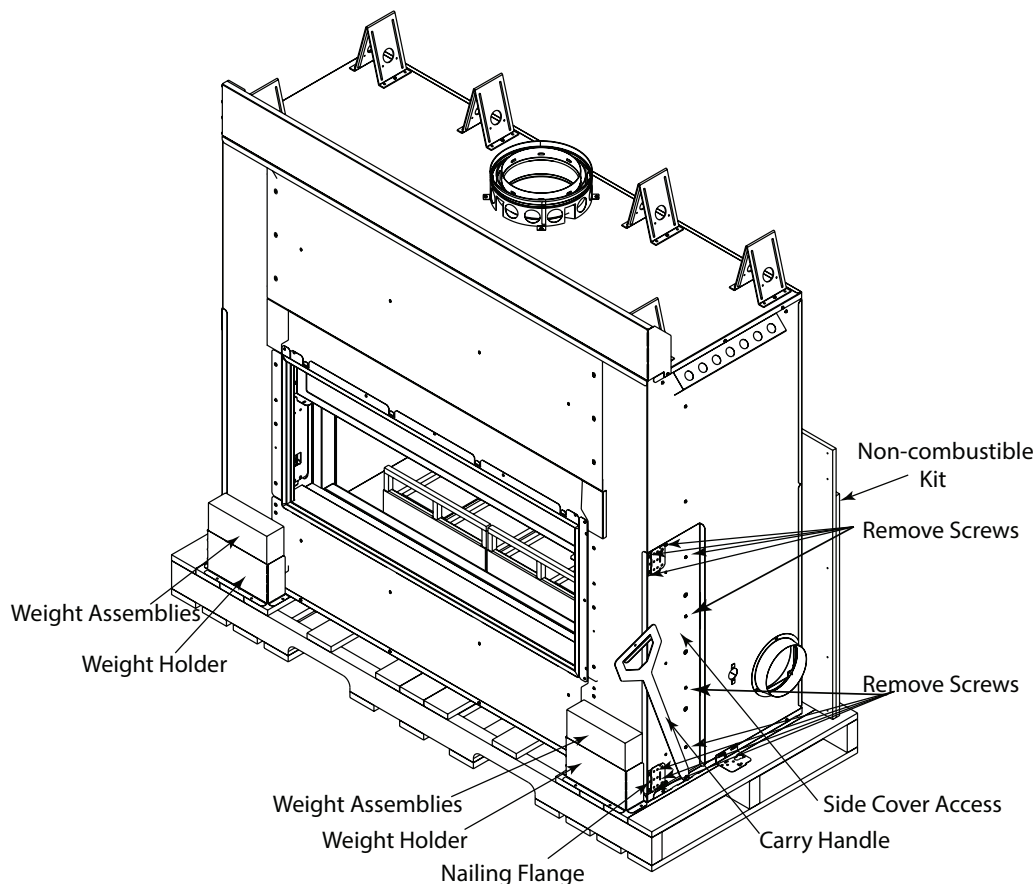

Figure 2.4
- ii. Lay the nailing flanges aside. See Figure 2.4.